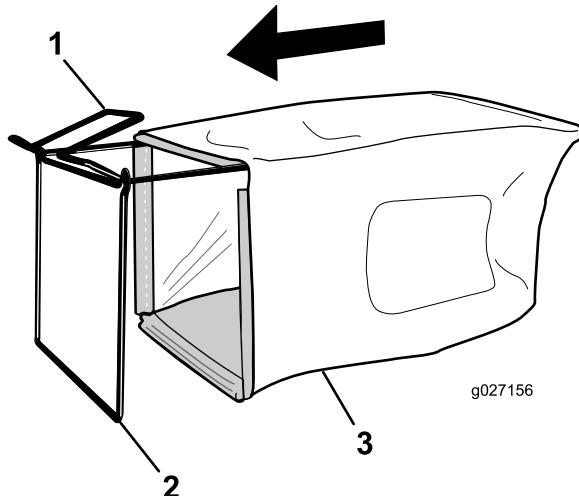

Figure 11
1. Slip the grass bag over the frame as shown in Figure 11.
- Note:** Do not slip the bag over the handle (Figure 11).